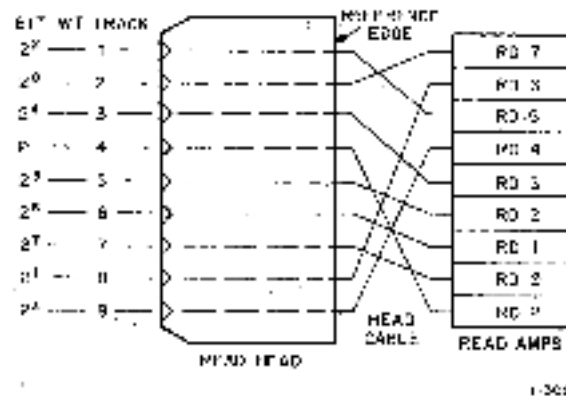

Figure 1-4 Track Bit Weight Relationship for Nine-Channel Transport
4. **Nine-Channel Recording** -- Eight tracks of data plus one track of vertical parity. Figure 1-4 shows the relationship between track and bit weight for a nine-channel transport.